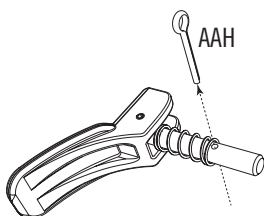
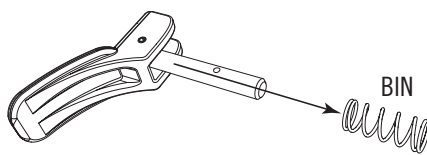

Fig. 1
Fig. 2
- Remove the **Cotter Key (AAH)** (Fig. 1) and **Spring (BIN)** (Fig. 2) from the **Locking Pin (EHR)**. Repeat this step for the second Locking Pin Assembly.